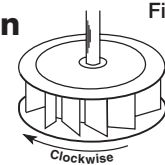

Fig. 6
Direction of wheel rotation is critical. Reversed rotation will result in poor air performance, motor overloading and possible burnout. Check wheel rotation (viewing from the shaft side) by momentarily energizing the unit. Rotation should be clockwise (CW) as shown in Fig. 6 and correspond to the rotation decal on the unit.
adjusted to allow 1/64 inch of deflection per inch of belt span. For example, a 15 inch belt span should have 15/64 inch (or about 1/4 inch) of deflection with moderate thumb pressure at mid-point between pulleys. Refer to Fig. 6. Overtightening will cause excessive bearing wear and noise. Too little tension will cause slippage at startup and uneven wear.
| | Unit running backwards | Correct as shown in Fig. 6. |